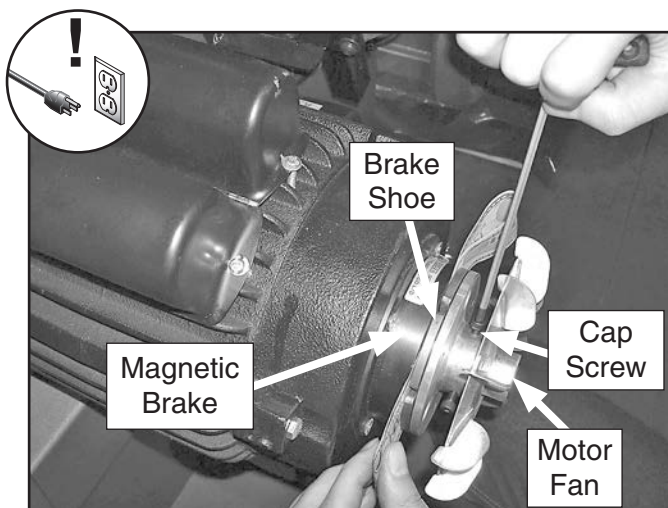

Figure 7. Adjusting distance between magnetic brake and brake shoe.
2. Remove motor fan cover, then loosen cap screws securing motor fan and brake shoe (see **Figure 7**).
3. Fold two dollar bills in half and slide them (or use feeler gauges) between brake shoe and magnetic brake on both sides (see **Figure 7**).